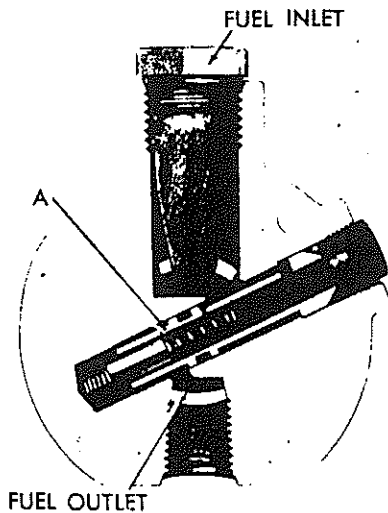

FIG. 9 (Hand Priming)
During hand priming, Fig. 9, the pressure differential across the transfer pump, caused by the hand primer, forces the piston down, compressing the spring, until the priming port (A) is uncovered. Fuel then by-passes the stationary transfer pump to fill the system.